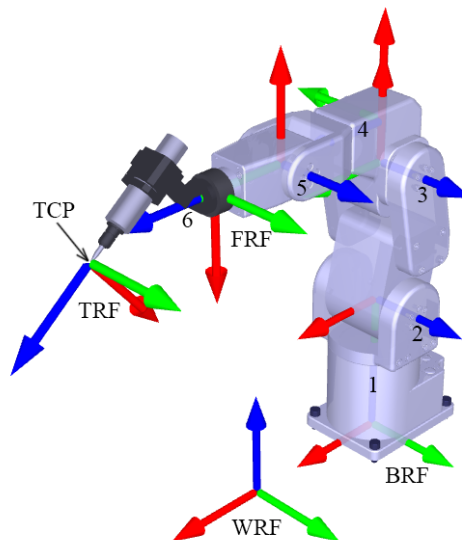

Figure 1: The joint numbering and the reference frames for the Meca500.
The joints of the Meca500 are numbered in ascending order, starting from the base (Fig. 1).
At Mecademic, we use only right-handed Cartesian coordinate systems (*reference frames*). The reference frames associated with the Meca500 are shown in Fig. 1. The  $x$  axes are in red, the  $y$  axes are in green, and the  $z$  axes are in blue. The key terms related to the reference frames that you need to be very familiar with are:
The angle associated with joint  $i$  ( $i = 1, 2, \dots, 6$ ),  $\theta_i$ , will be referred to as *joint angle  $i$* . Since joint 6 can rotate more than one revolution, you should think of a joint angle as a *motor angle*, rather than as the angle between two consecutive robot links. A joint angle is measured about the  $z$  axis associated with the given joint using the right-hand rule. Note that the direction of rotation for each joint is indicated on the robot body. All joint angles are zero in the configuration shown in Fig. 1. Note, however, that unless you attach an end-effector with cabling to the robot flange, there is no way of telling the value of  $\theta_6$  just by observing the robot. Thus, in Fig. 1,  $\theta_6$  might as well be equal to  $360^\circ$ .
For example, in Fig. 1, the joint set of the robot is  $\{0^\circ, 0^\circ, 0^\circ, 0^\circ, 0^\circ, 0^\circ\}$ , although, it could have been  $\{0^\circ, 0^\circ, 0^\circ, 0^\circ, 0^\circ, 360^\circ\}$ , and you wouldn't be able to tell the difference from the outside.
- $c_1 = 1$ , if the *wrist center* (where the axes of joints 4, 5 and 6 intersect) is on the positive side of the  $yz$  plane of the frame associated with joint 2 (see Fig. 1). This frame is obtained by shifting the BRF upwards and rotating it about the axis of joint 1 at  $\theta_1$  degrees. (The condition  $c_1 = 1$  is often referred to as “front”.)
For example, consider the Meca500 at its zero robot position (Fig. 1). At this robot position, the end-effector cannot be moved laterally (i.e., along the  $y$  axis of the BRF); it is physically blocked. Thus, singularities are not some kind of purely mathematical problem. They represent actual physical limits. That said, because of the way a robot controller is programmed, at a singular position (or at a robot position that is very close to a singularity), the robot cannot be moved in any direction using a Cartesian-mode motion command (MoveLin, MoveLinRelTRF, MoveLinRelWRF).